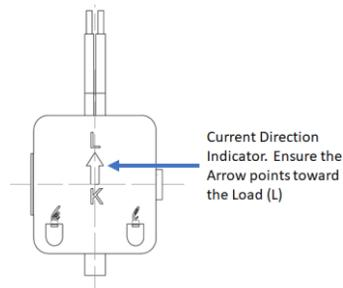

Figure 4 - Bottom View of Current Transformer
1. Locate the arrow on the bottom of the CT. Ensure that the CT is installed so that the arrow points TOWARDS the load (into the panel). See Figure 4.